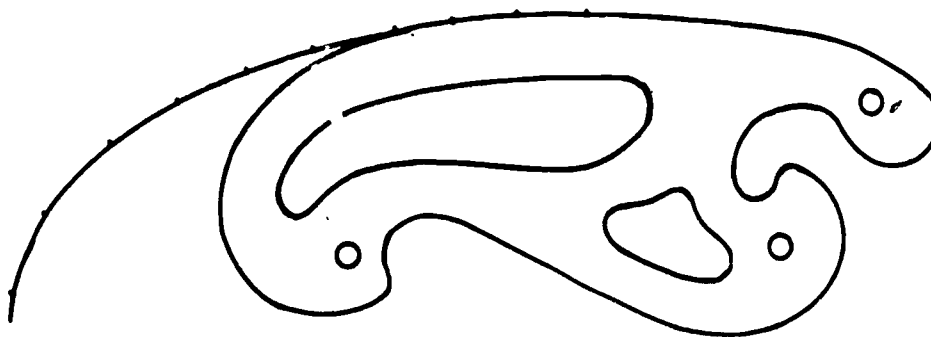

FIGURE 1
- D. Extend line to join new points (Figure 1)